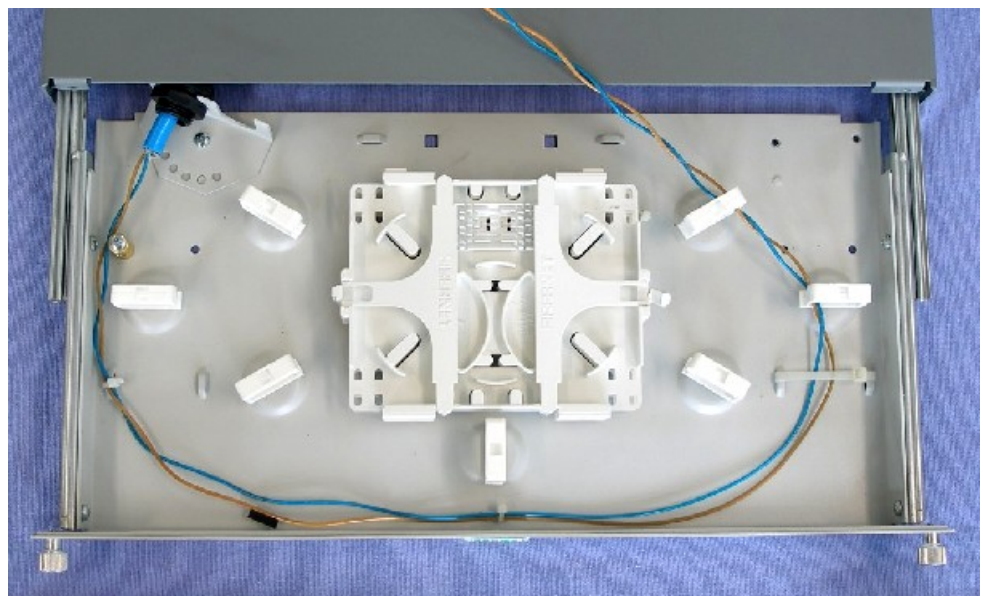
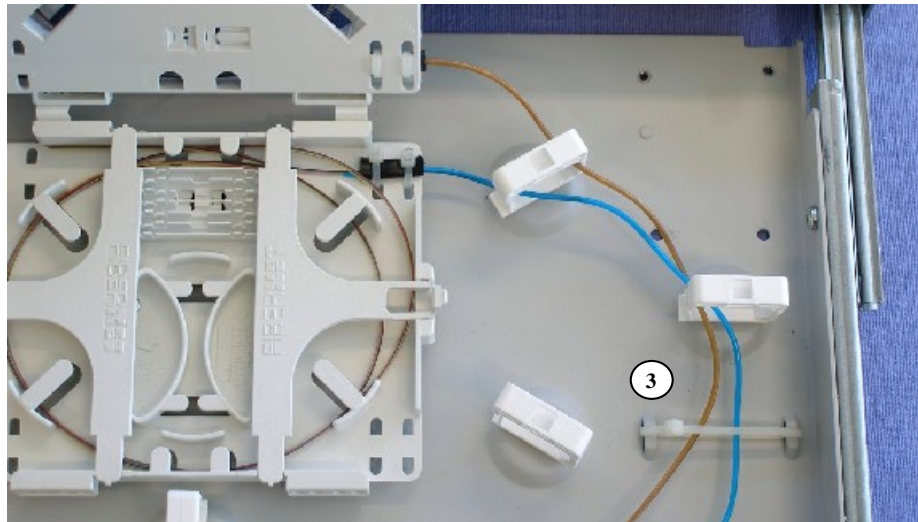

Figure 6. Loose tube lay-up and cable tie down locations
Figure 9.
Regardless of where the loose tubes appear onto the sliding drawer i.e. left (L), or right (R) location, see Figure 6. It is however, highly recommended that the lay-up of these loose tubes be secured onto the splice trays at furthest entry point from the front. This will enable the top splice tray to swing away from the front to allow the user easy access to the fibres on the bottom splice tray, see Figure 9.
- a) Position the loose tubes at the three allocated cable tie down locations as per Figure 6.
Special note for cable tie down location 3 – at location 3 secure the loose tubes between two cable tie down positions. This ensures sufficient movement of the loose tube secured to the top splice tray to swing freely up and down (up to 90degrees), see Figure 9.
- a) Lift the top splice tray to access fibres 1-12 on the bottom splice tray. The top splice tray with the attached loose tube should open to 90 degrees with little resistance, see Figure 9.